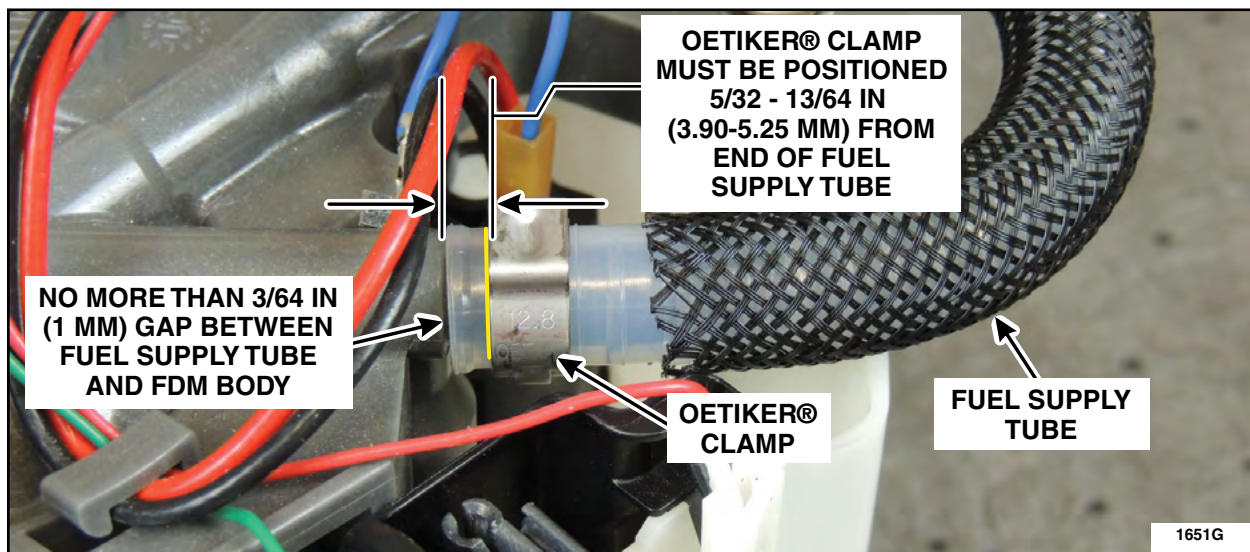

FIGURE 8
8. Connect the new fuel supply tube to the supply port and mark the installation position of the Oetiker® clamp prior to tightening. Improper location can cause a fuel pressure bleed down. See Figure 8.